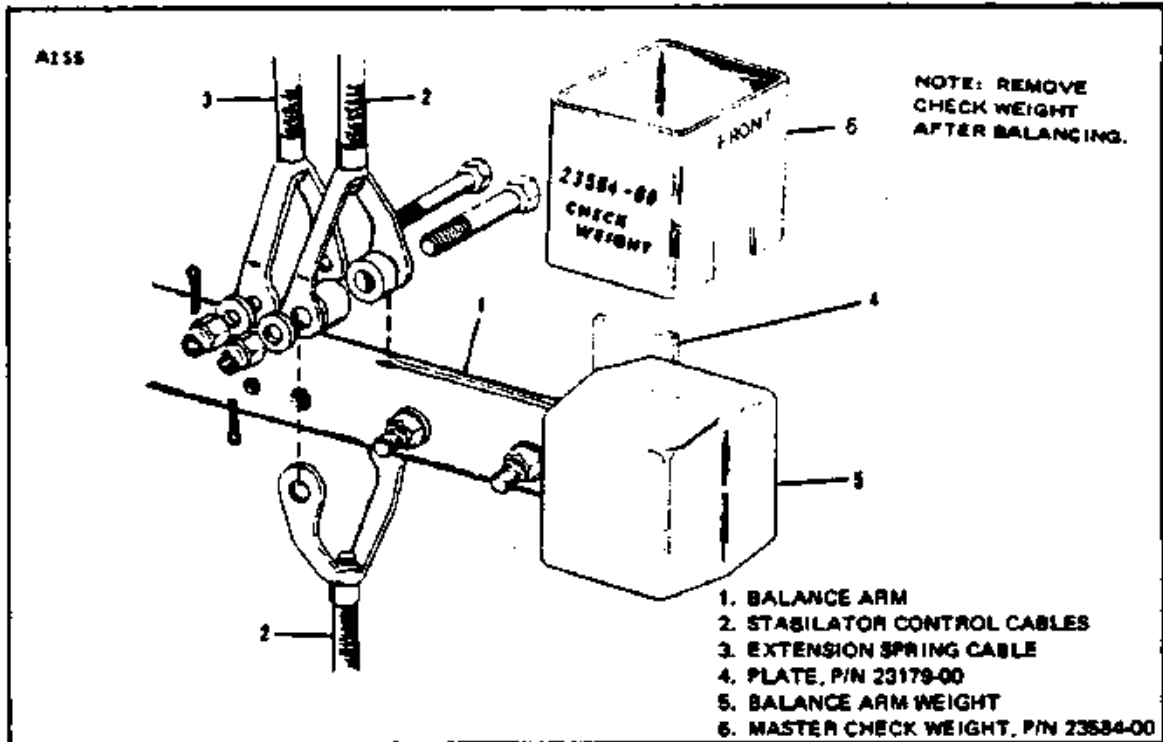

Figure 4-11. Balancing Stabilator, Serial Nos. 30-1 to 30-852 incl.,
**4-49. CHECKING AND BALANCING STABILATOR.** (Serial Nos. 30-1 to 30-852 inclusive; 30-854 to 30-901 inclusive; 30-1717; 30-1745 to 30-2000 inclusive.) (Refer to Figure 4-11.)
b. Stabilator installation must be complete before balancing, including tabs and paint. Stabilator control cables (2 and 3) must be disconnected from stabilator balance arm (1) and tab actuator arm must be disconnected from stabilator tab horn during balancing. Hardware used to connect the extension spring cable and stabilator control cables should be removed. Hardware holding balance arm weight in place should be installed. A small piece of tape should be used to hold tabs neutral with stabilator. It is very important to have the stabilator free to rotate with a minimum of frictional resistance.
c. Master check weight (6) (P/N 23584-00) (weight 1.58 pounds) should be placed on top of balance weight (5) (P/N 23594-00) with the side marked "FRONT" facing forward. (Refer to Figure 4-11.) If this is not enough weight to obtain static balance with the balance arm level, plates (4) (P/N 23179-00) must be added to the forward balance weight attaching bolt until 100% static balance is obtained or until up to two plates more than that required for balance have been added. Generally, it should not be necessary to use more than eight plates. If a total of more than eight plates is necessary to obtain balance, recheck the procedure in steps "b" and "c".
c. Master check weight (P/N 23584-00) (weight 1.58 pounds) should be placed on top of balance weight (5) (P/N 23594-00) with the side marked "FRONT" facing forward. (Refer to Figure 4-11.) If this is not enough weight to obtain static balance with the balance arm level, plates (4) (P/N 23179-00) must be added to the forward balance weight attachment bolt until 100% static balance is obtained or until up to two plates more than that required for balance have been added. Generally, it should never be necessary to use more than eight plates. If a total of more than eight plates is necessary to obtain balance, recheck the procedure in steps "b" and "c."